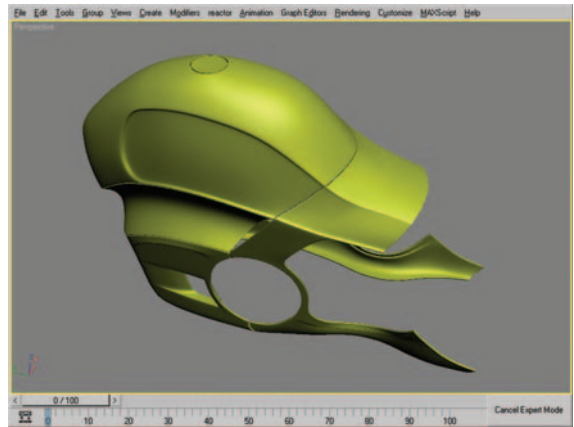

Figure 8.92 Base mesh with gas cap mesh fitting neatly into it.
19. Apply a TurboSmooth modifier to the gas cap object with two iterations and toggle on the modifiers of the other mesh to see the end result (Figure 8.92).